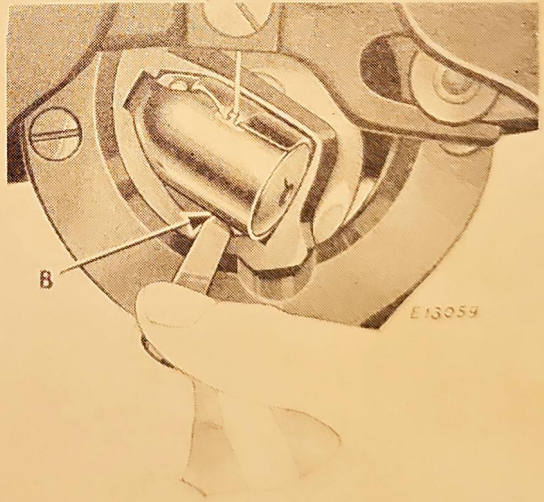

Fig.4. Shuttle Cylinder Opener 120571 in Use
Turn the balance wheel to bring the needle bar to its lowest position; then, with the curve of the Shuttle Cylinder Opener 120571, shown in Fig.4, conforming to the curve of the shuttle cylinder, insert the small end of the shuttle cylinder opener in the slot (B) in the spring latch beneath the shuttle cylinder, as shown in Fig.4. Press the latch away from the cylinder and turn the cylinder outward or toward the left as far as it will go, as shown in Fig.4, and the bobbin will drop out.